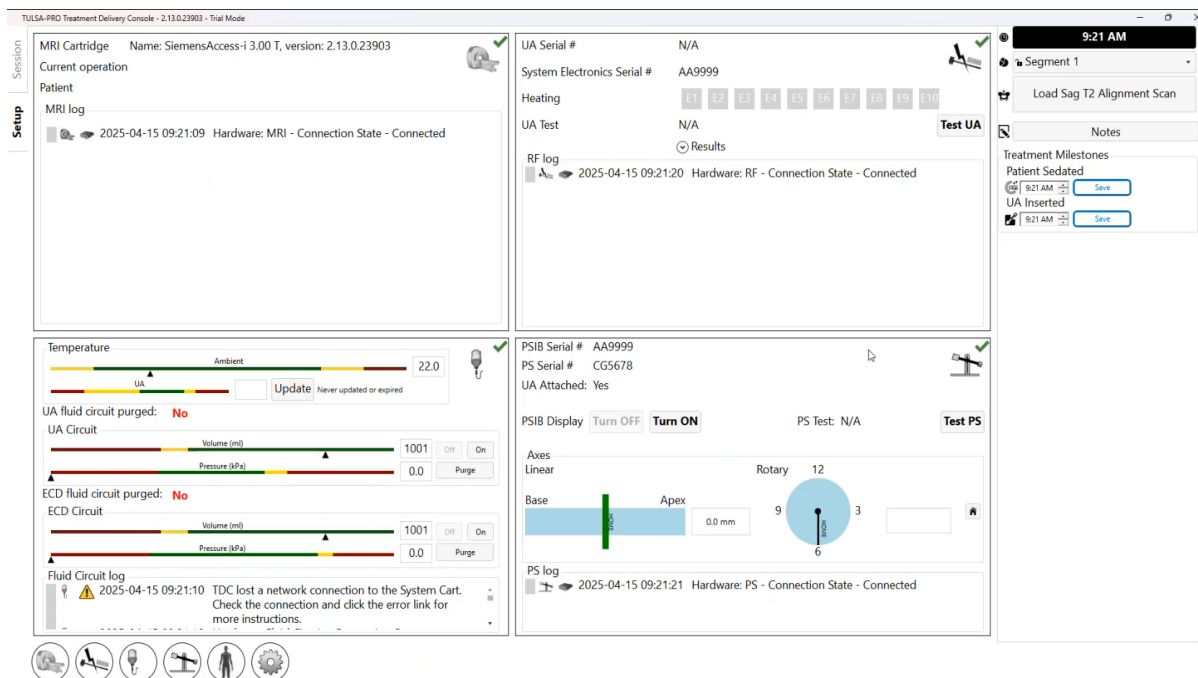

Figure 5: Setup workspace of the TDC software
- After selecting **New Session**, you will enter the **Setup** Workspace (*Figure 5*) where you can ensure all equipment is functioning properly before proceeding.